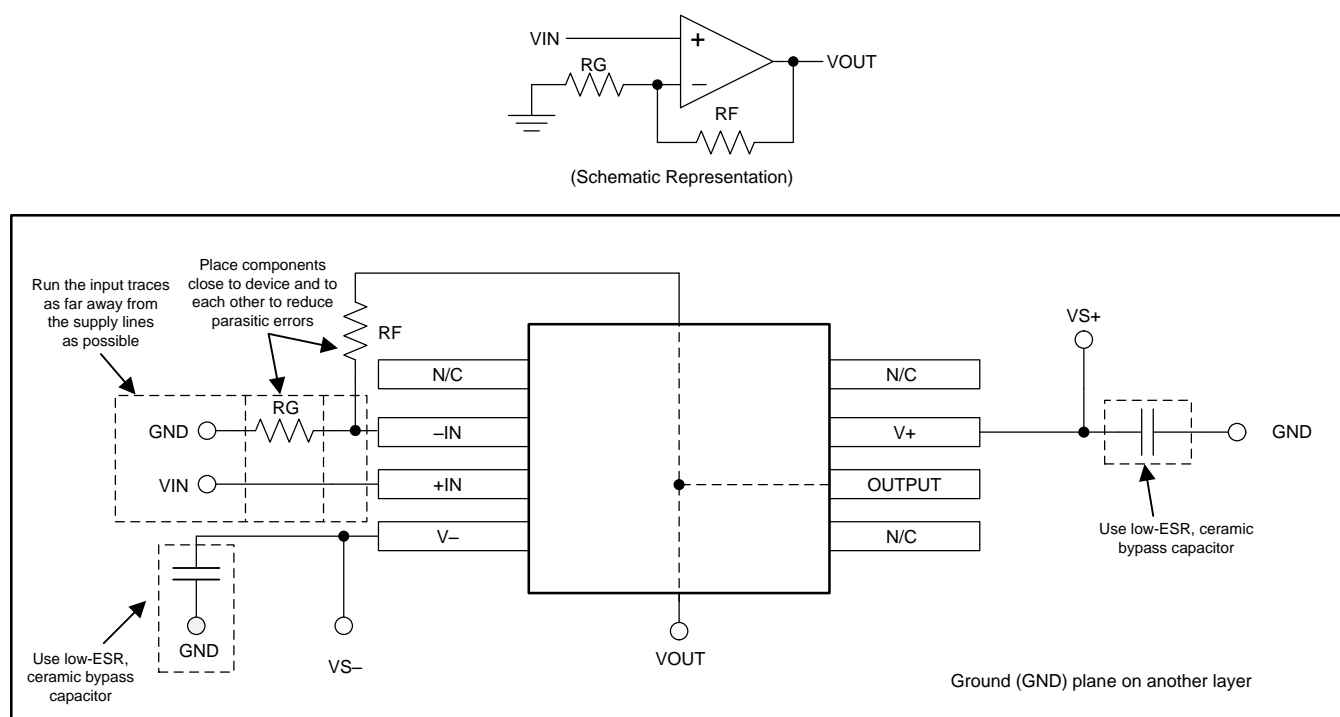

图 39. OPA1641-Q1 Layout Example
- Place the external components as close as possible to the device. As shown in Figure 39, keeping RF and RG close to the inverting input minimizes parasitic capacitance.